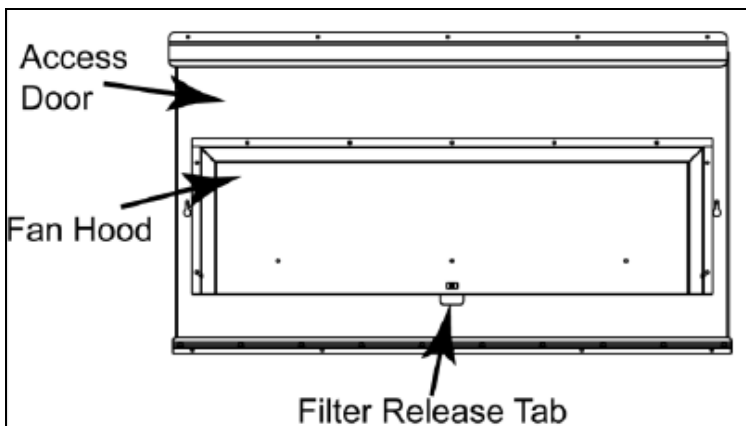

Figure 5: Filter Hood
1. Depress the filter release. Refer to **Figure 5**.